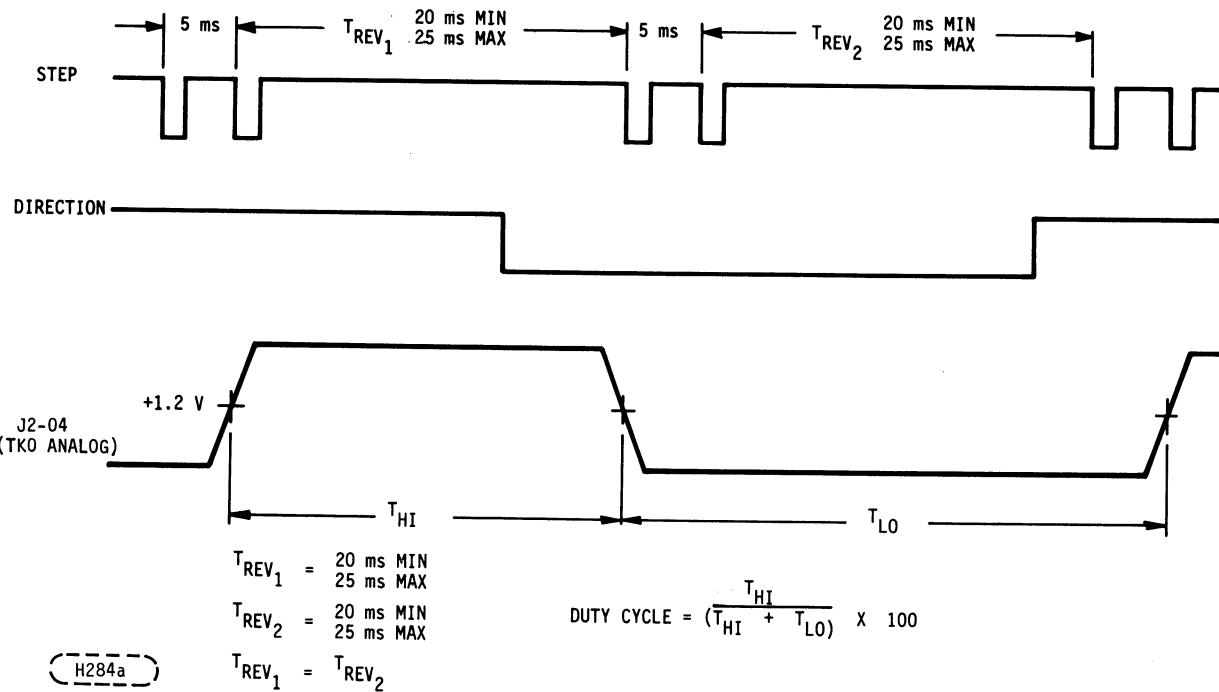

FIGURE 6-6. STEP PULSE TIMING DIAGRAM
- a. Perform an alternate seek between Track 00 and Track 02. The "STEP IN" portion of the alternate seek cycle must be symmetrical with the "STEP OUT" portion, including any turn around delays at Track 00 and Track 02. The time between step pulses must be 5 ms with a minimum of 20ms and a maximum of 25 ms when reversing (see Figure 6-6). The Track 00 switch signal on J2-04 (Data PWA) should alternate between high and low logic levels at a 50% duty cycle measured at the +1.2 V level.